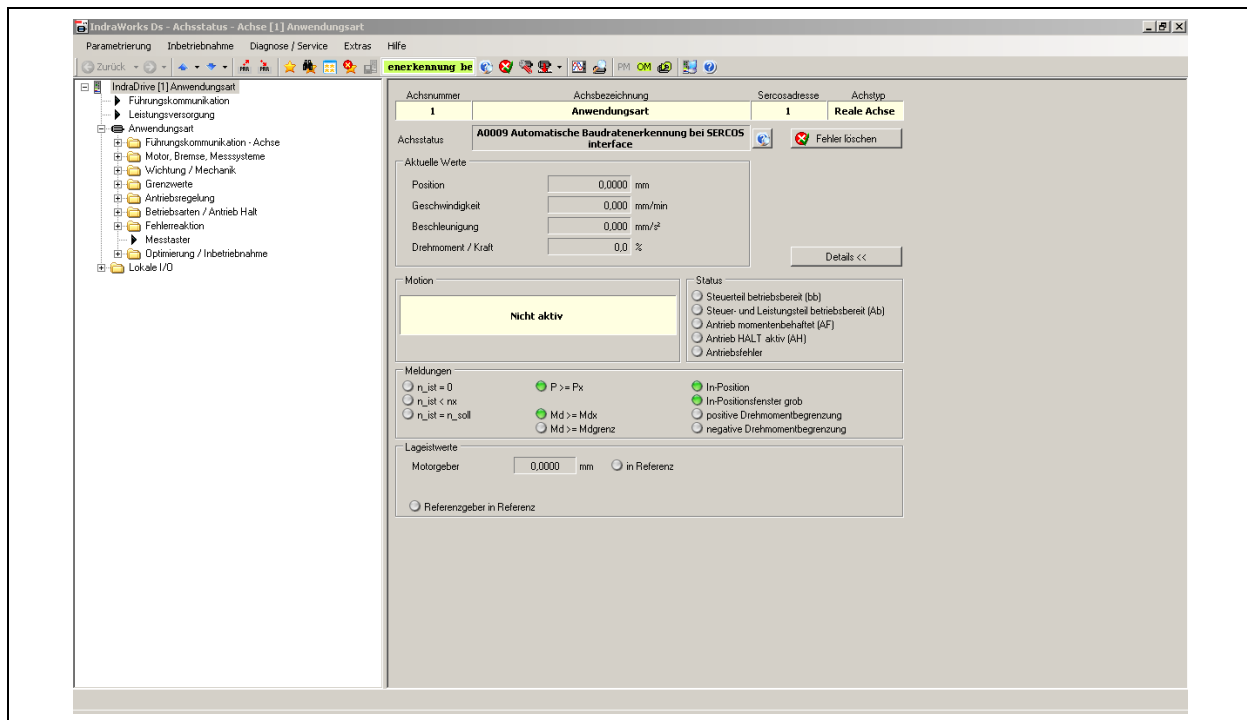

Figure 3 Project Explorer
1. In the main window of IndraWorks, select <View> ➔ <Project Explorer>. The Project Explorer appears. (see Figure 3, page 14)